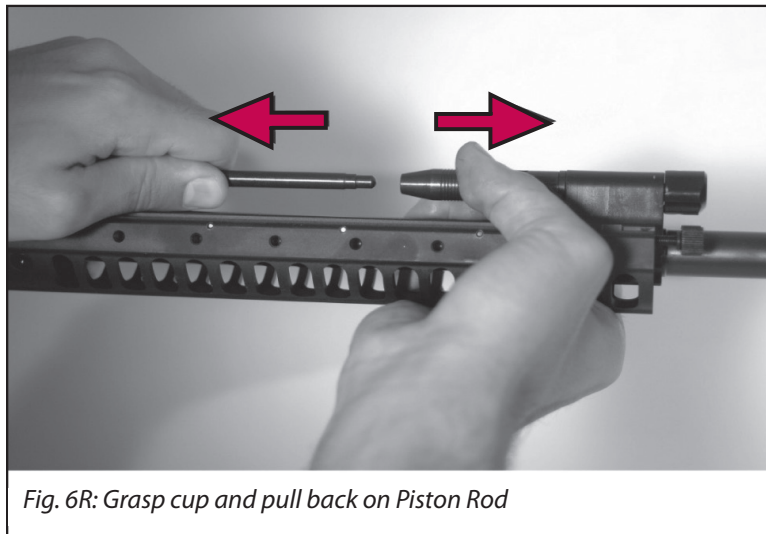

Fig. 6R: Grasp cup and pull back on Piston Rod
6.2.5a To disassemble the Piston Operating Group assembly, grasp the front of the operating rod and pull firmly to the rear compressing the piston spring while pulling forward on the Piston Cup (Fig. 6r). Ensure to pull it straight back into the receiver or it will bind. The front of the operating rod will disengage from the piston cup.